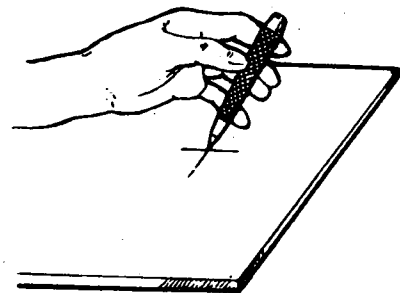

Fig. 2
- a) Rest the tip of the punch on the selected spot. Lean the punch forward so that it will be easier to find the point of intersection (Fig. 2).